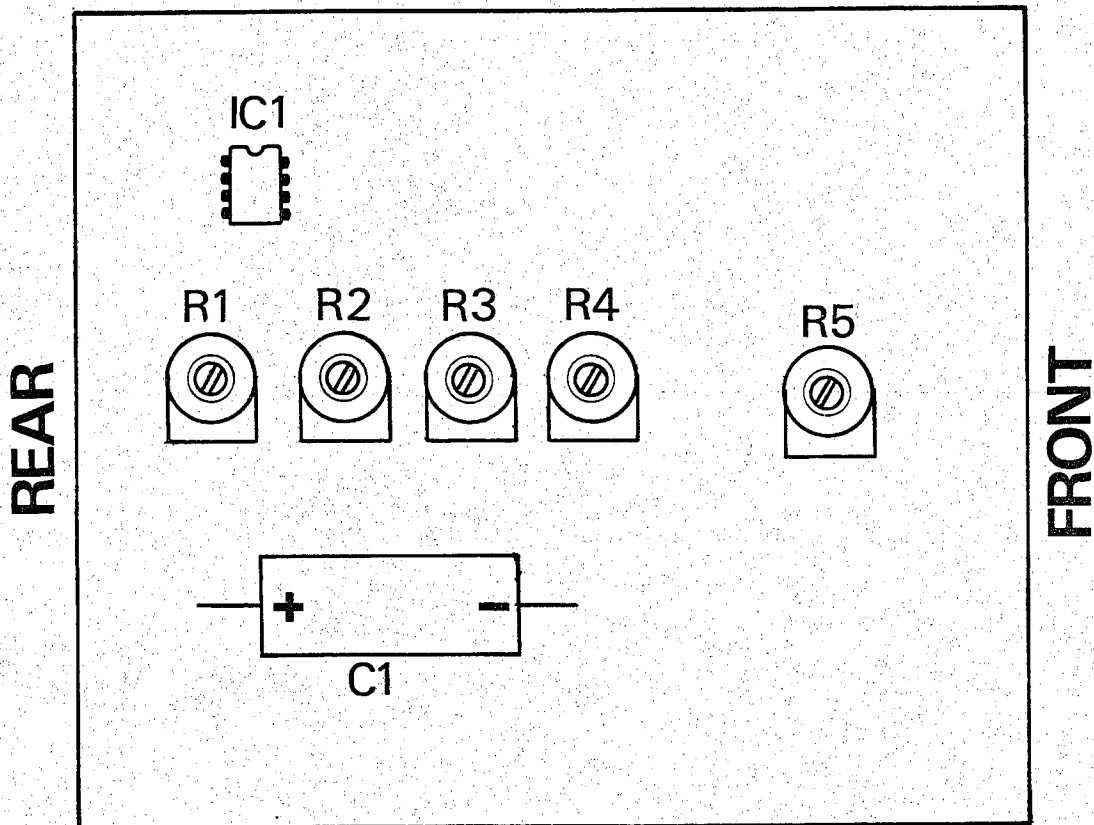

Fig. 2. Model 1640 printed circuit board, component view (calibrating trimpot locations shown).
To gain access to the calibration adjustments, remove the 6 screws at the sides of the top cover, then lift the top cover. Refer to Fig. 2 for locations of the calibration adjustments. A 0.100 inch hex type alignment plastic tool is required to turn the internal pot adjustments. Set Model 1640 POWER switch to the OFF/RESET position.
1. Set R1, R5, and the front panel VOLTS control to full CCW position. (See Fig. 2.)
VOLTMETER CALIBRATION (See Fig. 2)
AMMETER CALIBRATION (See Fig. 2)
SHUTDOWN ADJUSTMENT (See Fig. 2)